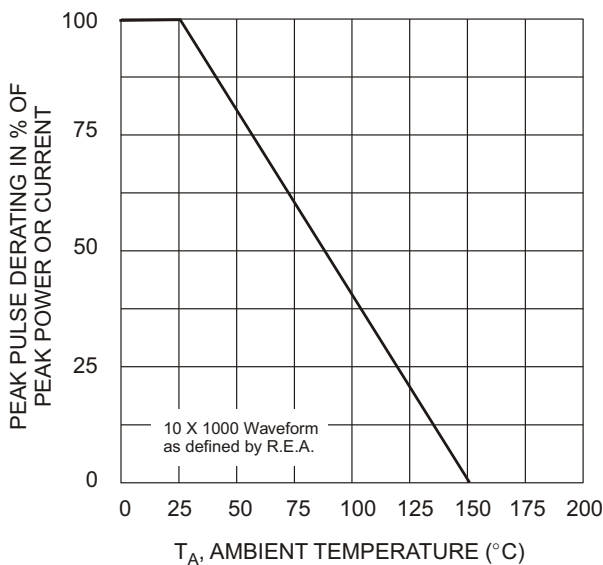
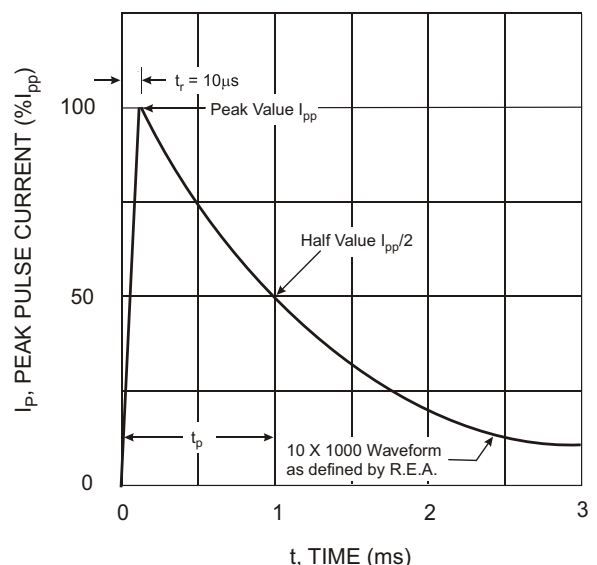

Fig. 1 Pulse Derating Curve
Fig. 2 Pulse Waveform
2. Non-repetitive current pulse per Figure 2 and derate above T_A = 25 C per Figure 1.